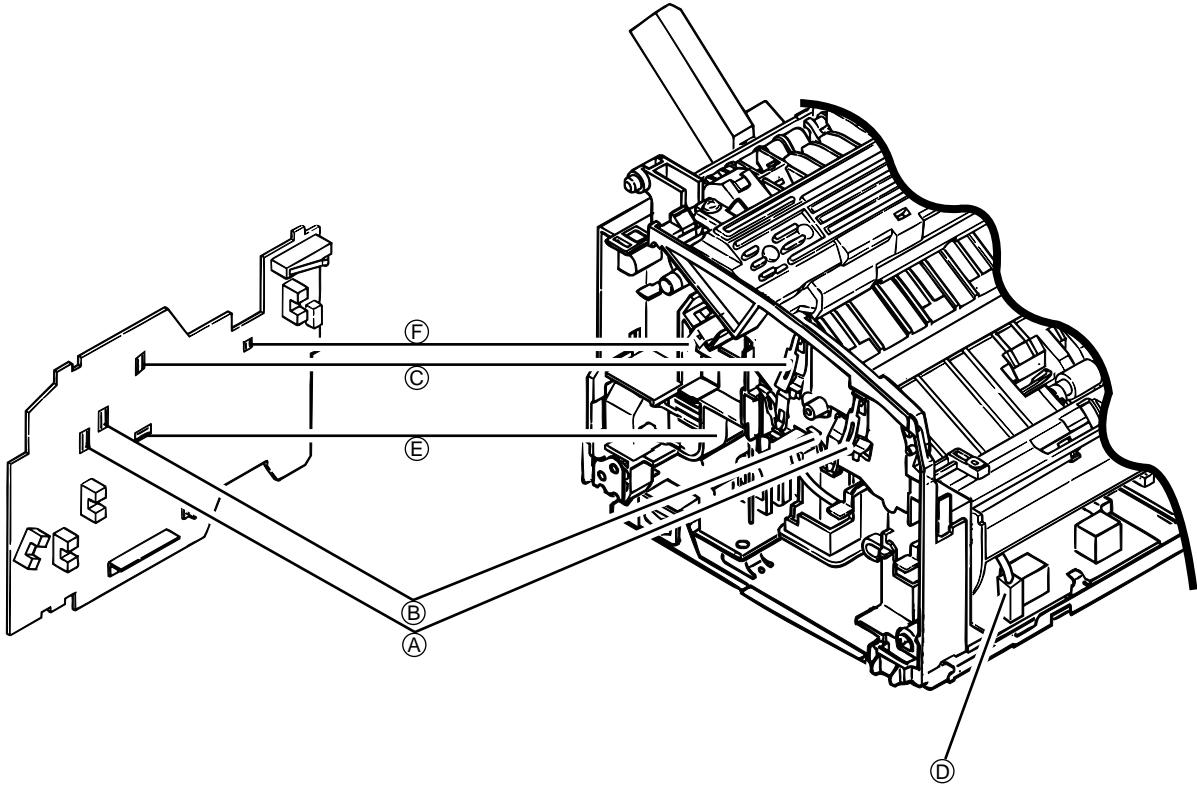

Figure 6-4
• No Is the terminal of the I/D unit in correct contact with the contact plate? (See Figure 6-4 (A)(B)(C)(E) and Figure 6-5 (A)(B)(C)(D)(E).)